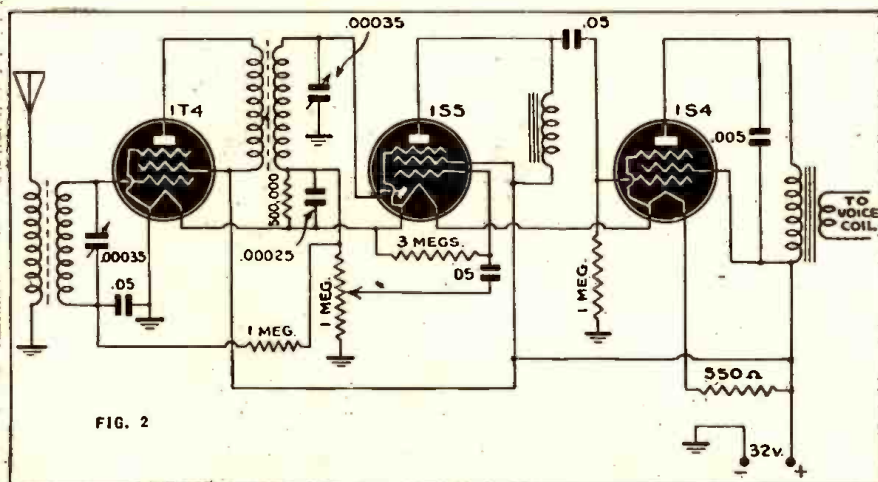

FIG. 2
**A.** The miniature type low-voltage tubes make it possible to design a set that will work with reasonable efficiency on 32 volts. The two coils should be of the iron-core R.F. type, for greater sensitivity. The audio frequency choke in the plate circuit of the 1S5 may be any small choke—the secondary of a burned-out audio transformer has been used here with good results. (See Fig. 2.)